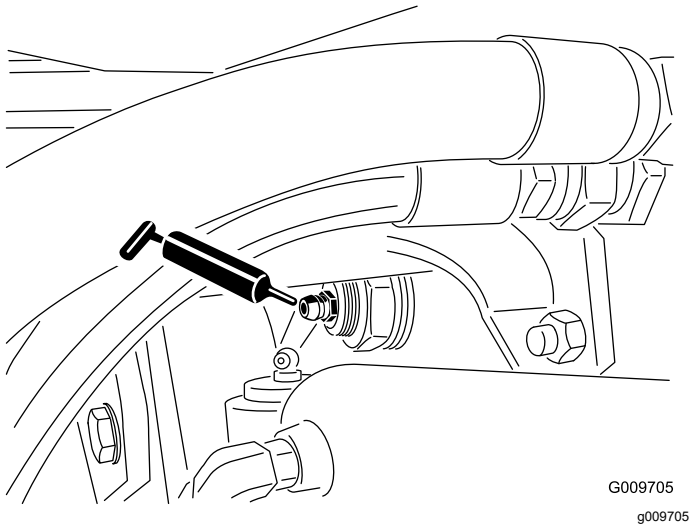

Figure 49
- Rear axle pivot bushings (2) (Figure 49)